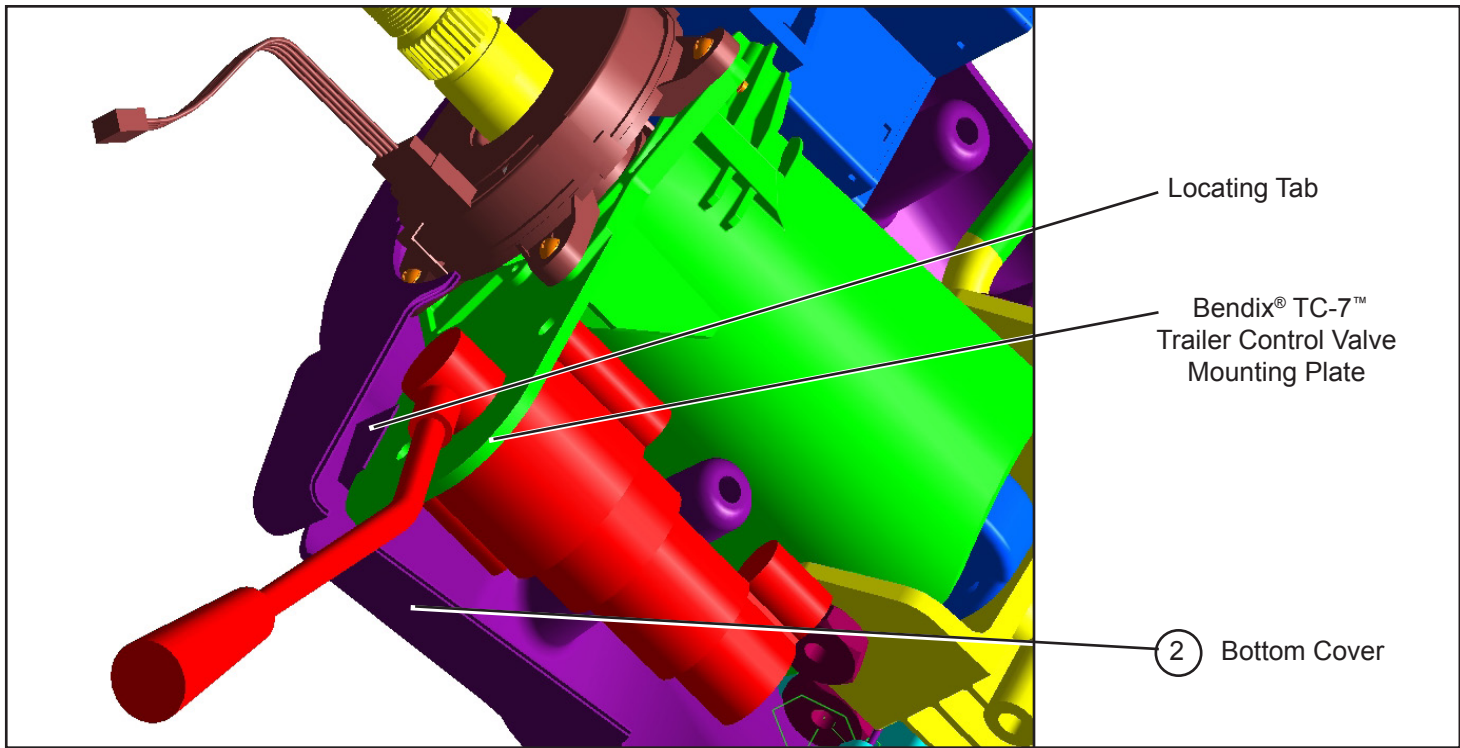

Figure 3 Bottom Cover Installation
1. There are two different column screws provided in this kit. Select the appropriate column screw (4) based on the material of the upper head. If the upper head material is aluminum, use the machine screw (4), otherwise use the plastite screw (4). The screw not used for this installation can be discarded.
2. Install the steering column covers (1 & 2) starting with the bottom cover. Align the steering column screw hole of the bottom cover with the steering column hole. As shown in Figure 3, the locating tab inside the cover rests against the Bendix® TC-7™ trailer control valve mounting plate when properly positioned. Install the appropriate column screw (4).
4. Align the top cover with the bottom cover and install the two post screws (3). Tighten the center column screw to 20–40 in-lbs and the post screws to 10–25 in-lbs.